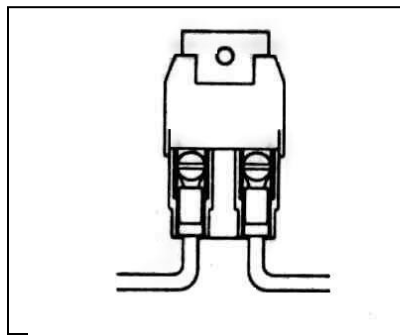

Figure 7.3 Maxi-Fuse
- Parts Box, containing the maxi-fuse (See **Figure 7-3**)GM alternator connectors, terminals, splices, etc.
7.4.1 Install Maxi-Fuse (**Figure 7.3**) onto the end of ENGINE SECTION (single) 10-gauge wire #916 (red) AFTER having routed wire from the fuse panel to the starter solenoid. This link is two (2) gauges smaller than wire #916 and serves as a fuse to protect the entire harness. DO NOT OMIT IT!